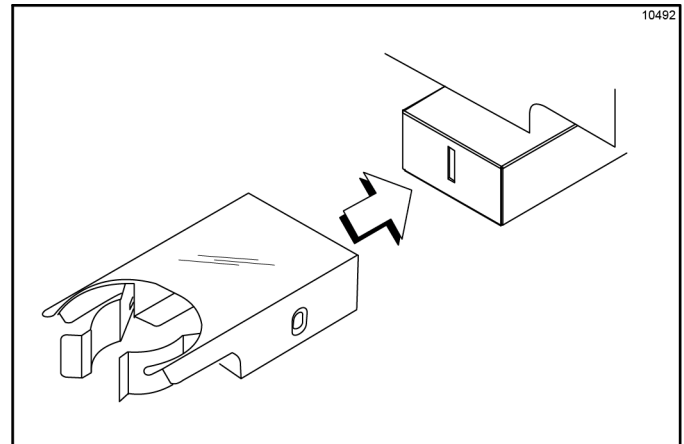

Figure 6-59
3. Install the shake cup holder. (See Figure 6-59.)